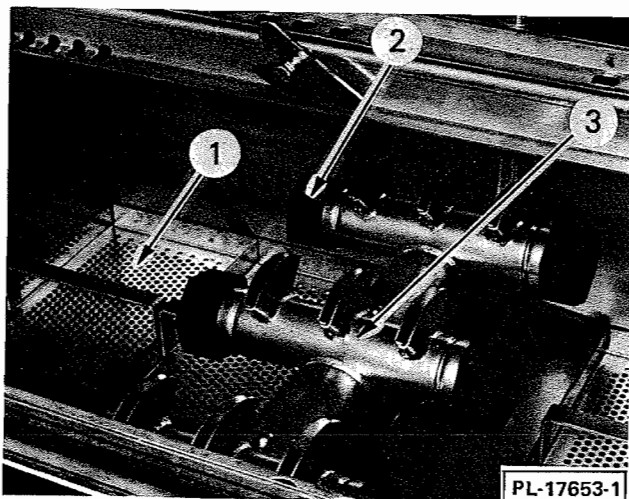

Fig. 6
Put the dishwasher strainer pans (1, Fig. 6) into position in dishwasher tank(s).
4. Remove wash arms (3, Fig. 6); remove wash arm end caps (2, Fig. 6); using a common silverware knife, push any nozzle obstructions into the wash arms. Thoroughly flush the wash arms in a sink and replace the wash arm end caps (a twisting action helps assure proper seating).